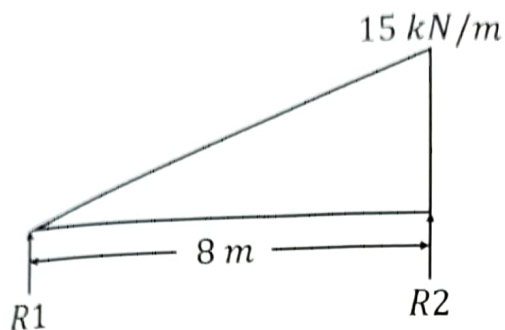

Fig Q1
1. A simply supported beam carries a load which uniformly varies from 0 kN/m at the left hand edge to 15 kN/m at the right hand edge as shown in Fig Q1.